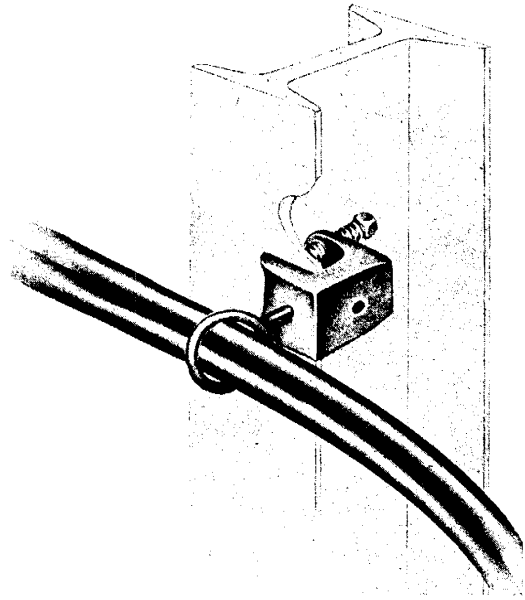

Fig. 9 — B Insulator Support and Bridle Ring
- B insulator support (Fig. 9) will accommodate B or M bridle rings only. It can be attached to steel structures up to 3/4 inch in thickness.